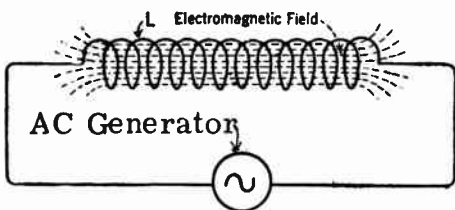
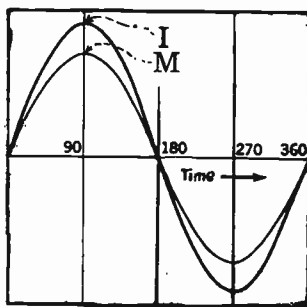

FIG. 4-12.
FIG. 4-13. MAGNETIC FIELD
**INDUCTANCE.** In a previous paragraph we learned that a current-carrying coil of many turns behaves just like a magnet. The current causes a magnetic field to surround the coil. If the current flowing through the coil is alternating, the magnetic field will also be alternating. Fig. 4-12 shows a coil with alternating current flowing through it. This alternating current produces an alternating magnetic field around the coil which expands and collapses in step (or in phase) with the alternating current. When the current is zero, the magnetic field is zero; when the current reaches its peak at  $90^\circ$ , the magnetic field reaches its maximum value. This is shown in Fig. 4-13. Since the field starts from zero and builds up to a maximum, it is an expanding field. This expanding field must cut through the conductors of the coil itself. According to Lenz's law, the cutting action induces an e.m.f. in the coil which opposes the original current. In other words, alternating current flowing through a